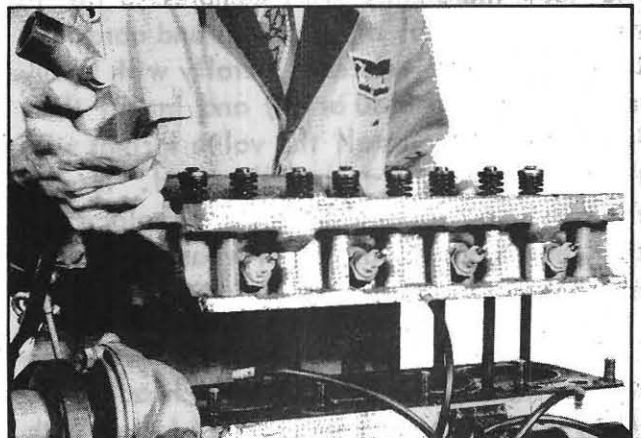

Fig. 4
8. Remove thirteen nuts and rocker arm shaft assembly. The cylinder head, valves and manifold may now be lifted from the engine block as an assembly, see Fig. 4.